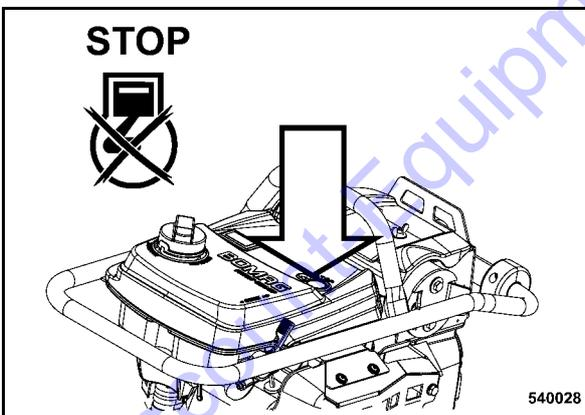

Fig. 26
- Press the engine shut-down button (Fig. 26).